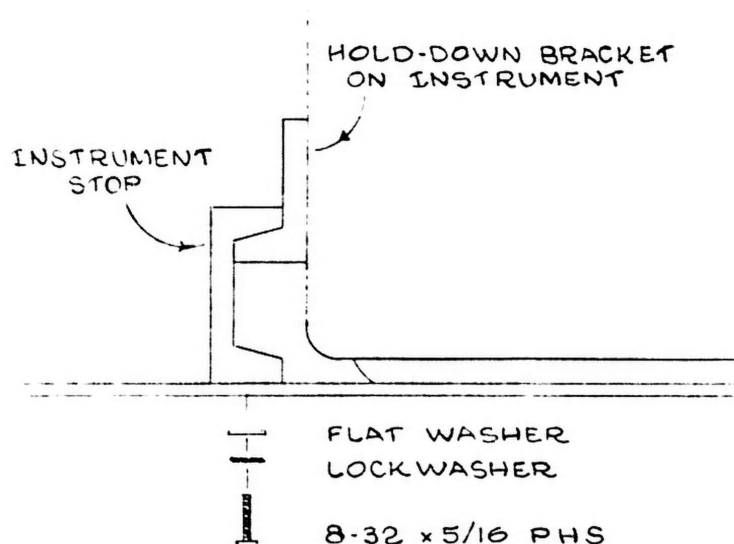

FIG. 5
- () 9. Place the instrument stop (from kit) on the cradle so that it meshes with the hold-down bracket on the instrument (see Fig. 5). If necessary, the hold-down bracket may be adjusted up or down.
- () 12. Mount the stop, using the 8-32 x $5/16$ PHS screws, flat washers and lockwashers from the kit (see Fig. 5).